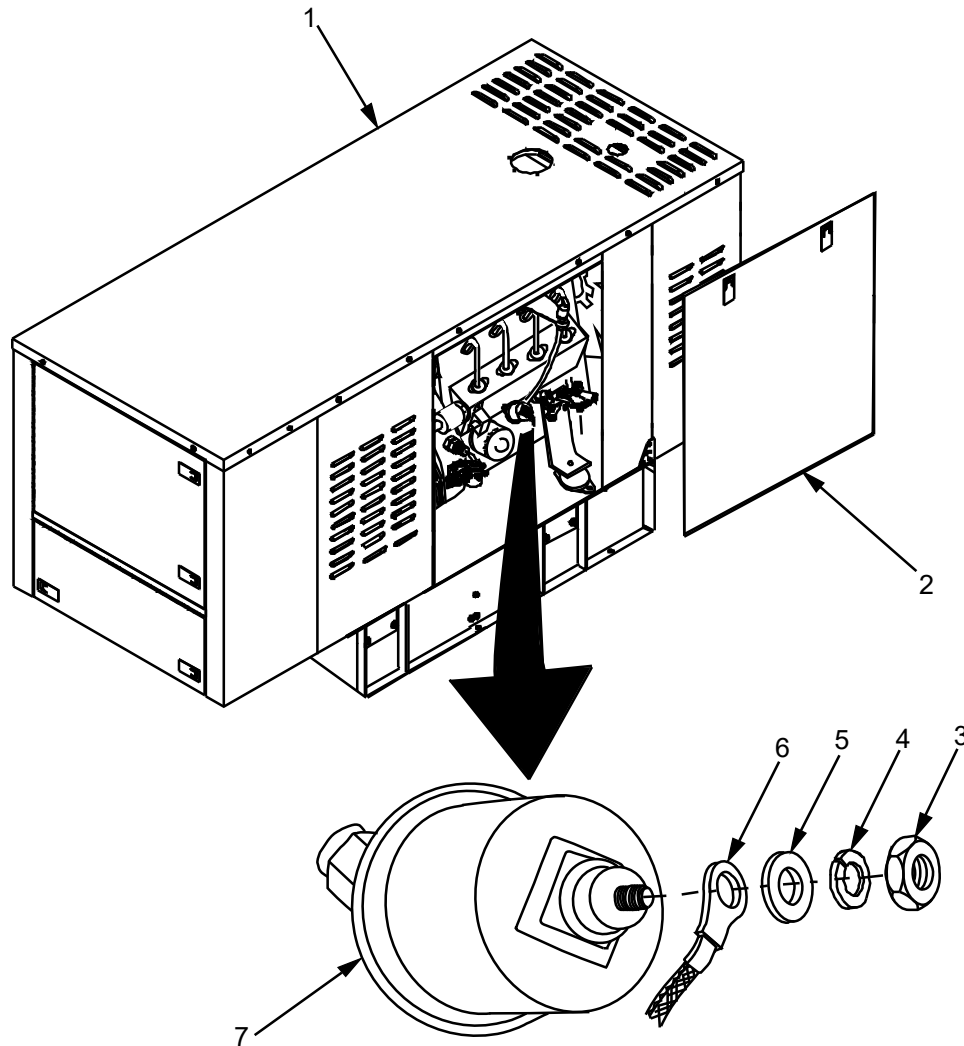

Figure 1. Oil Pressure Sending Unit Removal/Replacement.
Do not get anti-seize compound on end of oil pressure sending unit (Figure 1, Item 7).
2. Apply anti-seize compound to threads of oil pressure sending unit (Figure 1, Item 7).
When the following step is being performed, do not force oil pressure sending unit (Figure 1, Item 7) or cross thread. Failure to observe this caution can result in damage to the engine.
3. Install oil pressure sending unit (Figure 1, Item 7) onto mounting elbow and tighten.
Prior to performing the following step, inspect wire (Figure 1, Item 6) and terminal for connectivity. Ensure that wire has not become brittle and that there are no nicks, cuts or other damage to wire.
4. Install wire (Figure 1, Item 6) onto oil pressure sending unit (Figure 1, Item 7) and secure with nut (Figure 1, Item 3) lock washer (Figure 1, Item 4) and flat washer (Figure 1, Item 5).
6. Install access panel (Figure 1, Item 2).
8. Start Genset (Figure 1, Item 1) in accordance with Genset Start Procedure (WP 0005).